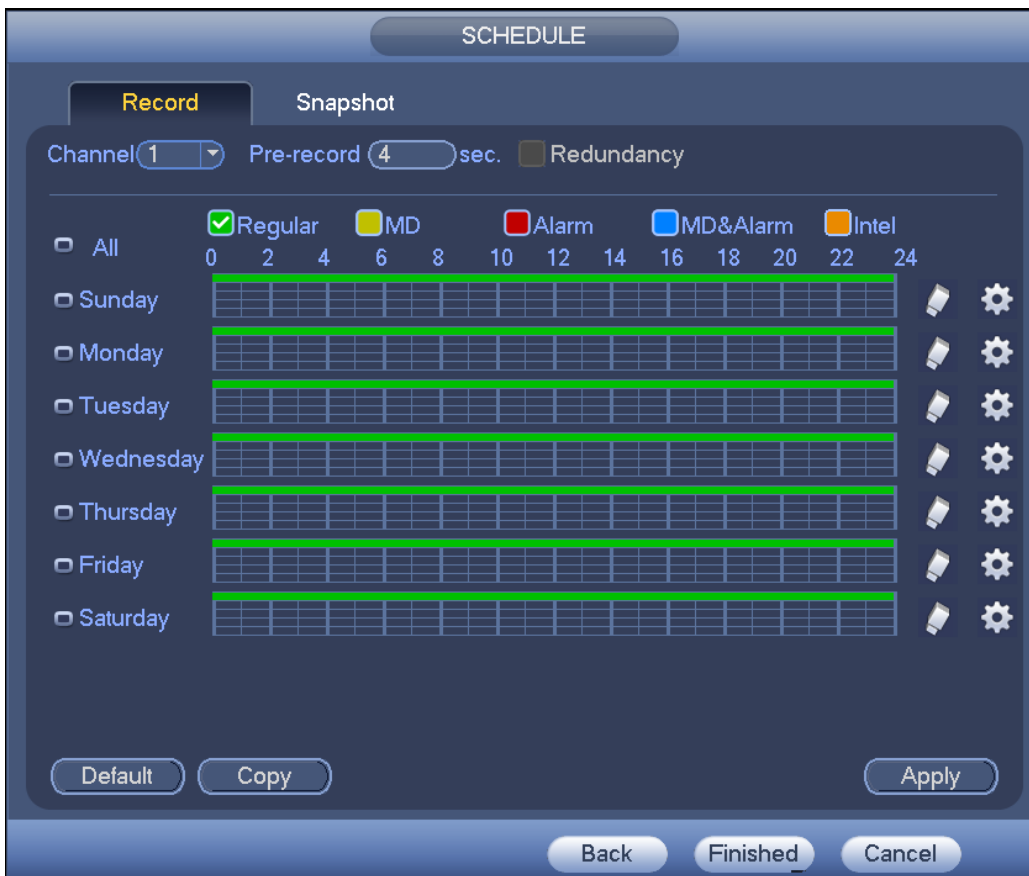

Figure 4-44
Step 1 Click Next button, enter Schedule interface. See Figure 4-44.